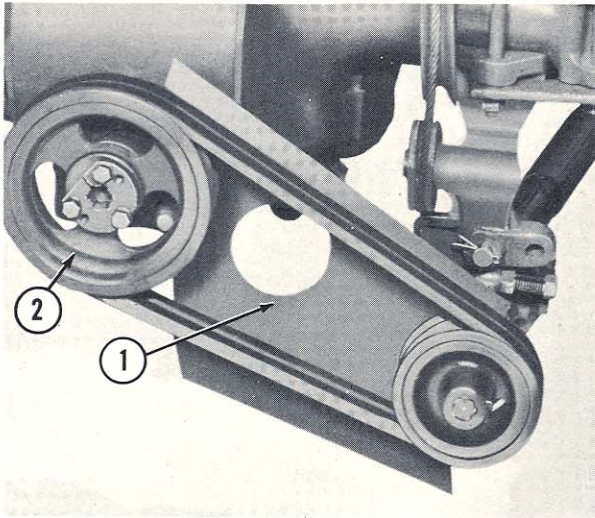

Figure 14
25. Bolt belt guard (1), Figure 14, to tractor P.T.O. housing with two cap screws furnished in bag of small parts.
26. Attach drive pulley (2), Figure 14, to tractor P.T.O. shaft and mount V-belt as follows: